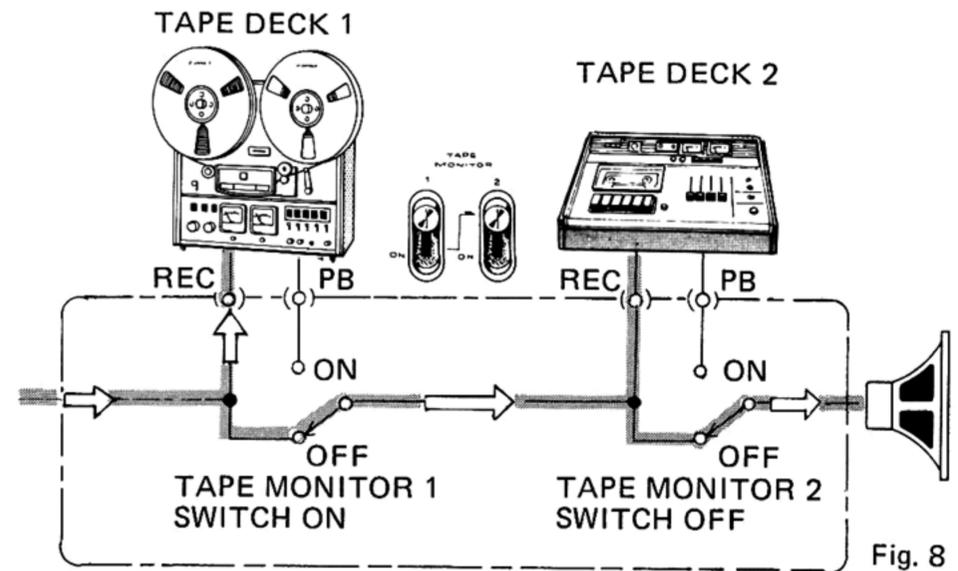

Fig. 8
- When recording with 2 tape decks simultaneously, avoid operating the TAPE MONITOR 1 switch. This can cause interruption of the signal to the TAPE 2 deck (see Fig. 8).